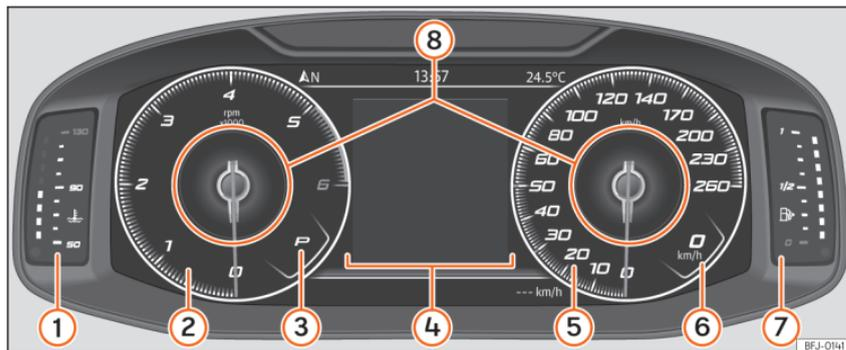

Fig. 69 SEAT Digital Cockpit on the instrument panel (classic view).
In *Classic View* and *Semicircular watches* it is possible to customise the information displayed under **Information Profiles** »» **Fig. 69** ⑧.
»» Fig. 69.